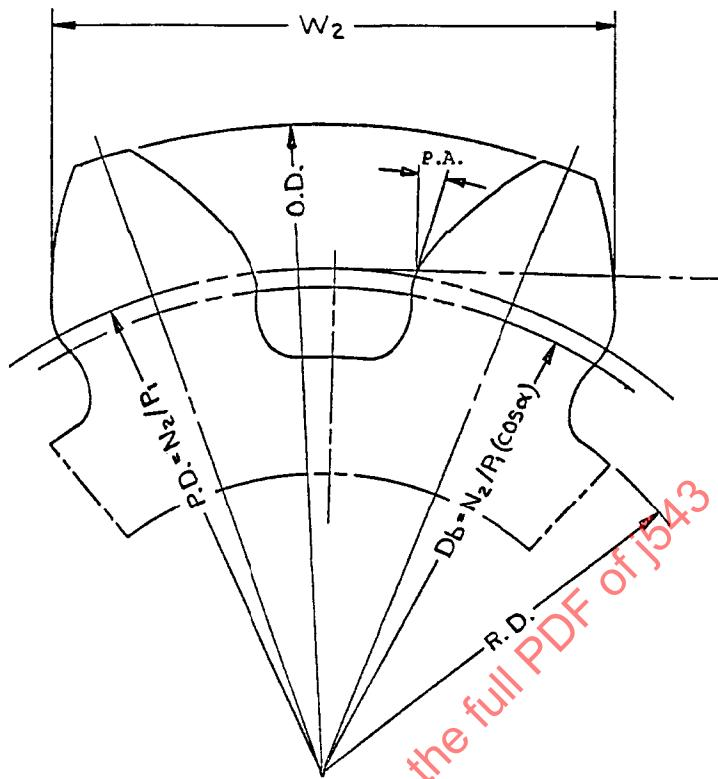

FIGURE 1—SPUR GEAR DETAIL
3. **Calculations for Spur Gears**—Table 1 and Figures 1 to 3 are to be used as a guide in establishing starter motor pinions and ring gear designs. Consult the gear manufacturer for detail dimensions.